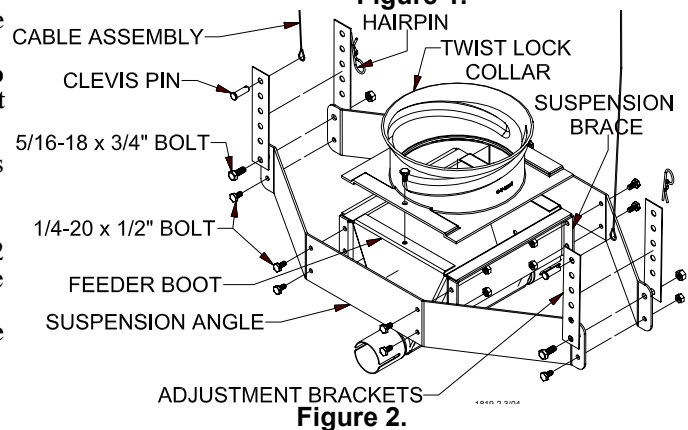

Figure 2.
5. Assemble suspension angles and suspension braces around feeder line boot (single or twin), using 1/4-20 x 1/2" Hex bolts and nuts (supplied in hardware package). See **Figure 2**.
6. Assemble the twist lock collar to the top of the feeder line boot (single or twin) using 1/4-20 x 1/2" bolts and lock nuts (supplied in hardware package). See **Figure 2**.
8. Two cable assemblies (cable with a sleeve clamp and a 5/32 thimble) are supplied with the suspension kit to support the hopper. Attach the cable assemblies to the adjustment brackets using the top holes of the adjustment brackets. See **Figure 2**.